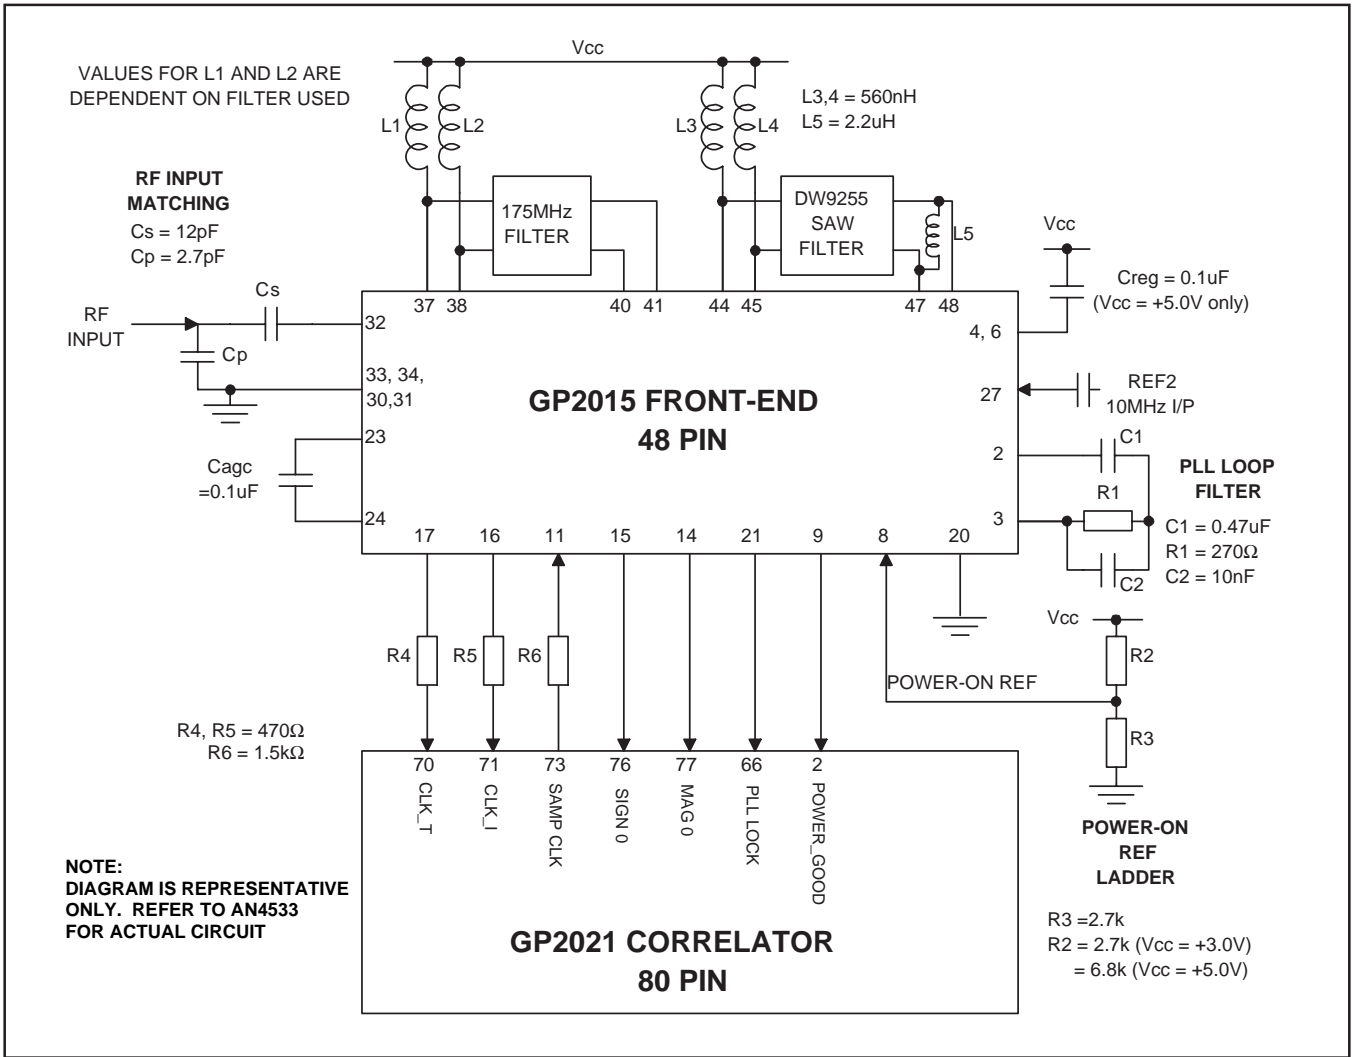

Fig. 4 GP2015 typical application
A typical application circuit is shown in figure 4 with the GP2015 front-end interfaced to the GP2021 12-channel correlator integrated circuit. The RF input has an unmatched input impedance (see page 4). The RF input matching components  $C_s$  and  $C_p$  should be mounted as close to the RF input as possible; also the Vee(RF) tracks must be kept as short as possible. A SAW filter may be used as a 175.42MHz filter, but this can be replaced by a simpler coupled-tuned LC filter if there is no critical out-of-band jamming immunity requirement. The DC bias to mixer 1 is provided via inductors L1 and L2, which may form part of the 175.42MHz filter. The output of mixer 2 requires an external dc bias, achieved with inductors L3 and L4, which also serve to tune out the input capacitance of the DW9255 SAW filter. The output of the SAW filter is tuned with inductor L5. Capacitor ( $C_{agc}$ ) determines the AGC time-constant. The PLL loop filter components are selected to give a PLL loop bandwidth of approximately 10kHz. The IF Output is normally used for test-purposes only, but is available to the user if required. Typically a low noise preamplifier (gain  $> +15dB$ ) is used between the